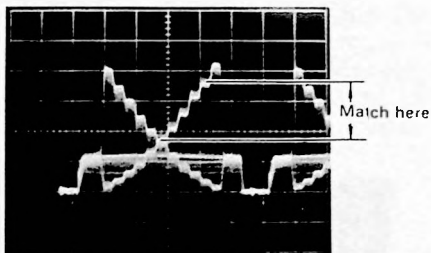

Fig. 4-4-39
- Adjust B. TRACKING-2 VR204 so that the B signal matches the Y_L signal in the 8th ~ 9th step of gray scale waveform. (Fig. 4-4-39)